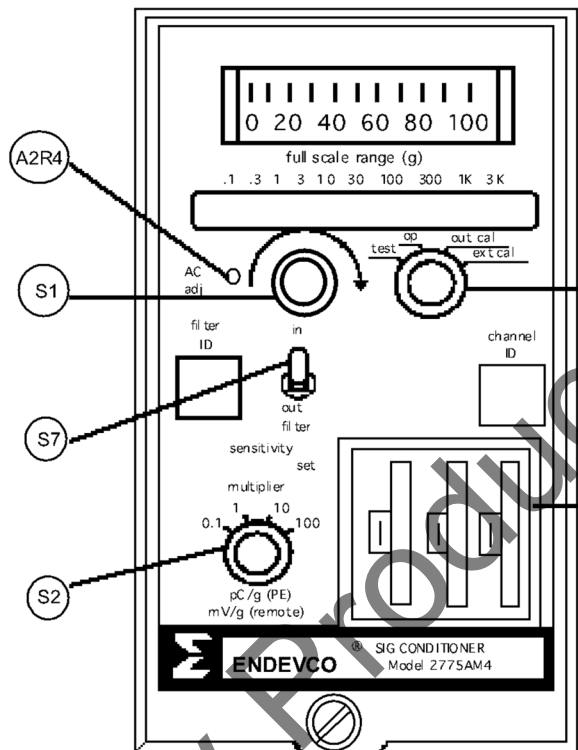

FIGURE 5-1: FRONT PANEL CONTROLS
- A. Remove the top cover by removing the four screws on the top of the unit. On the front panel, (Figure 5-1) set the following controls as indicated: